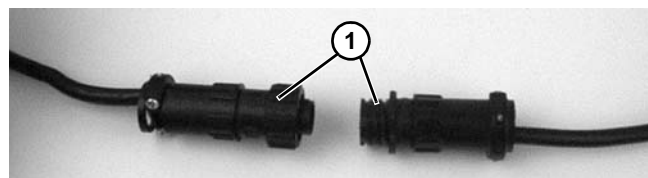

Figure 34
3. For DC variable speed motor, unplug motor cord at disconnect (Figure 34, item 1).